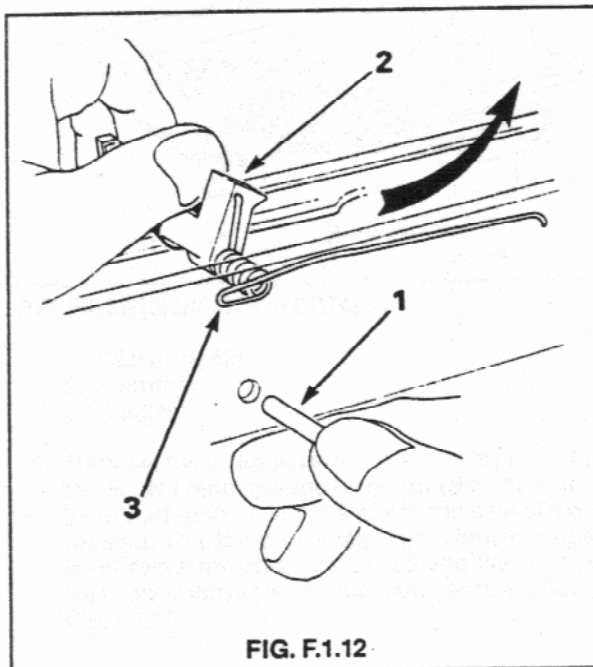

FIG. F.1.12
10. Withdraw the disconnecter axis pin and remove the disconnecter and the disconnecter spring by sliding it to the rear and out through the opening in the rear of the receiver. See Fig. F.1.12.